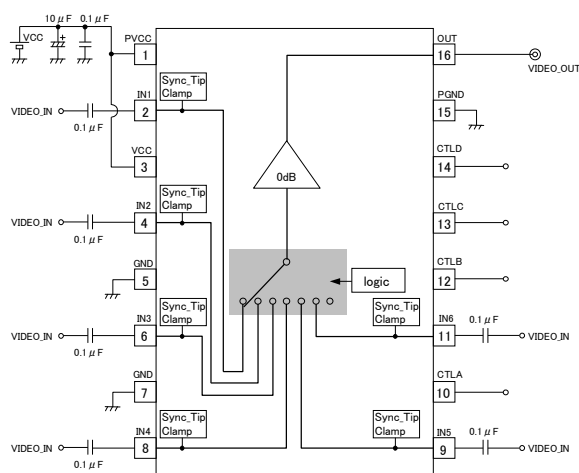
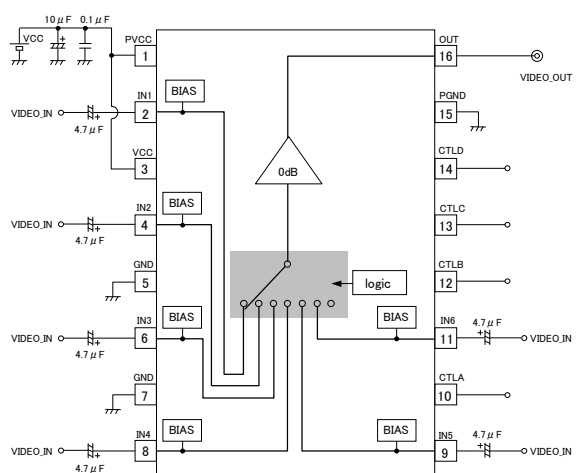

Fig.9 BH76362FV
Fig.10 BH76363FV
When evaluating the sag characteristics and determining the capacity of the capacitor during video signal input, a horizontal stripe signal called "H bar" (shown in Fig. 10) is suitable, and this type of signal is used instead of a color bar signal to evaluate characteristics and determine capacity.
11. Frequency response in models that do not include a 75-Ω driver (BH76362FV and BH76363FV) was measured as 100 kHz/30 MHz: 0 dB (Typ.) in the application circuit examples (shown in Fig. 9 and Fig. 10), and when resistance of about 1 or 2 kΩ is applied from the IC's output pin to GND, this frequency response can be improved (the lower limit of the applied resistance should be 1 kΩ). In such cases, gain is reduced, since the output voltage is divided by the added resistance and the output resistance of the IC.